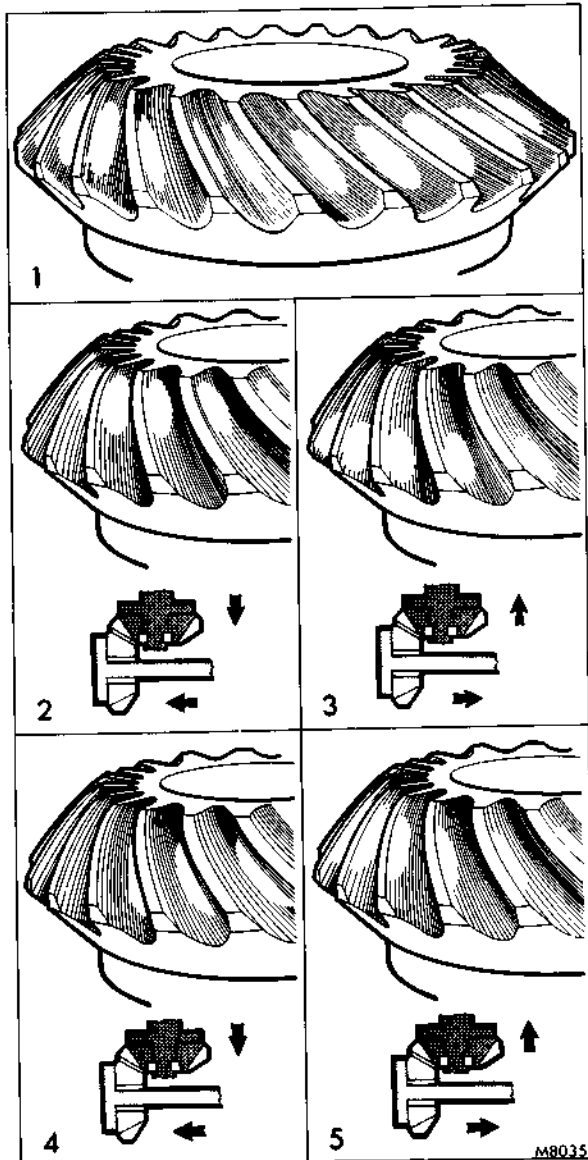

FIG. 10. PINION TOOTH CONTACT PATTERNS
- 49. Remove top case and lift out driven gear assembly. Examine pinion tooth contact pattern, see Fig. 10.